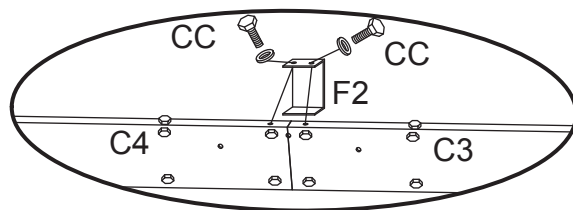

Fig 4.4
- 2.1 Connect the Right Long Lintel (C4) and the Left Long Lintel (C3) with the Connector (D) and Bolt (AA), with Bolt (CC) at the top of the lintel, fix the Lintel Cover (F2) at the same time, as seen in Fig 4.1-Fig 4.4;